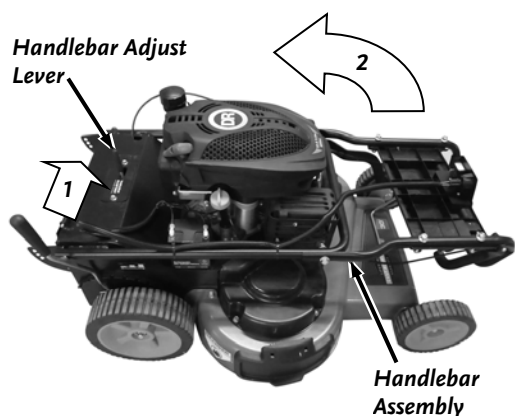

Figure 2
1. Move the Handlebar Adjust Lever to the left to release the Handlebar (Figure 2).